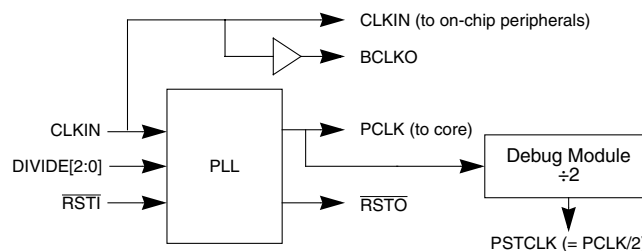

Figure 7-1. PLL Module Block Diagram
- A buffered processor status clock (PSTCLK) is half the PCLK frequency, as indicated in Figure 7-1. This signal is made available for system development.
Figure 7-1 shows the frequency relationships of PLL module clock signals.
| PSTCLK | Provides a buffered processor status clock. PSTCLK is half the frequency of PCLK. See Section 7.4.1, "PCLK, PSTCLK, and BCLKO," and Figure 7-1.                                   |